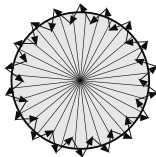

FIG.22
- Walk from outside across to the detection pattern until LED turns on for approx. 2sec indicating the movement has been detected (See FIG.22).